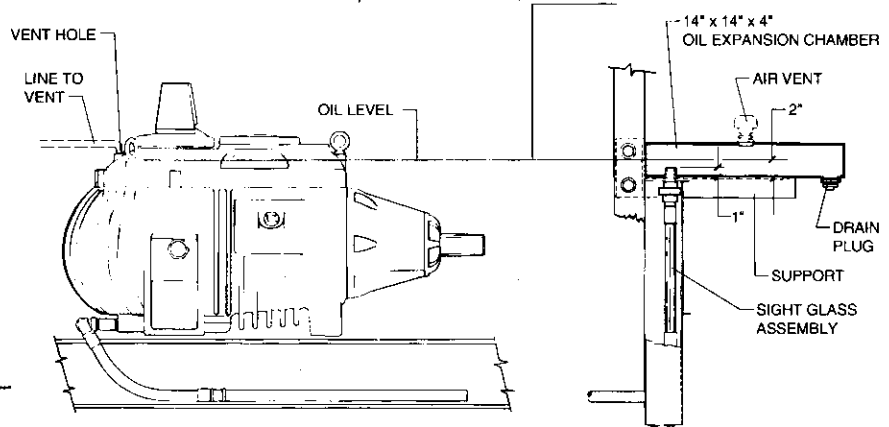

Figure 1
2. Fabricate and install an expansion chamber on the sight glass riser; see Figure 1. The figure shows the proportions of the expansion chamber and its relationship in elevation to the oil level. The purpose is to allow for expansion of the oil due to temperature change from that at the time of filling without causing it to overflow at the fan shaft closure. Smaller chambers may satisfy smaller Geareducer applications, but the 4" depth and elevation relationships should be maintained.
Use the same procedure as outlined for Geareducer with external gauge and drain lines. It will be necessary to install an external gauge and drain line or pipe and a riser which would permit mounting the expansion chamber outside the fan cylinder, see Figure 1.